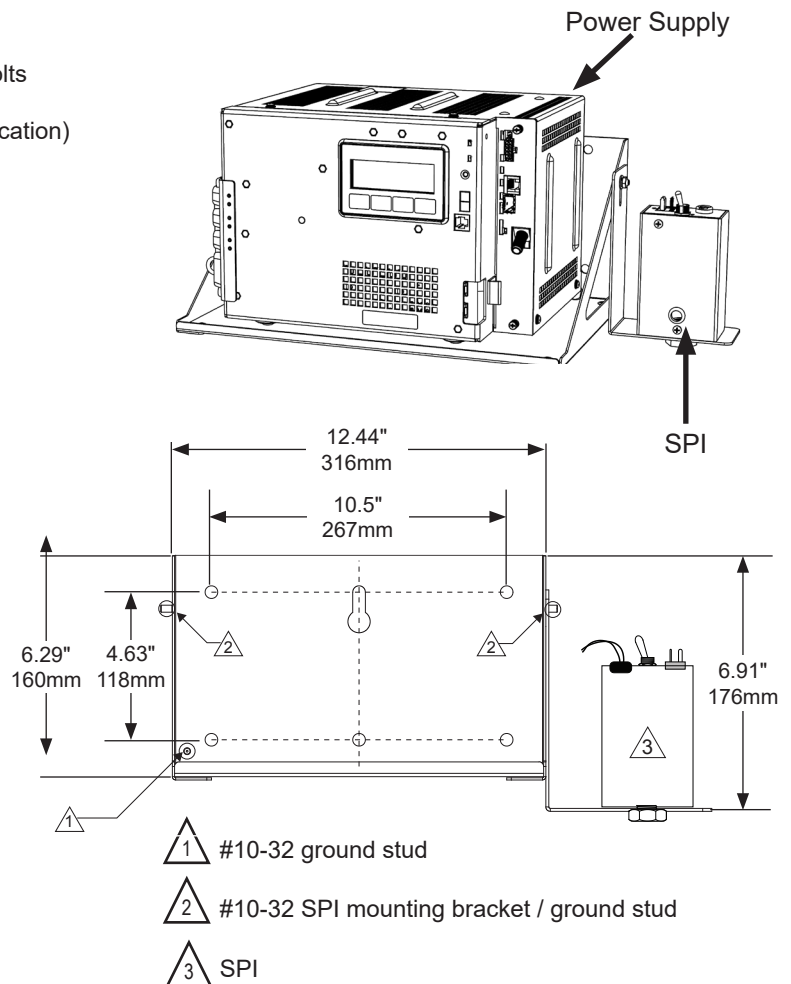
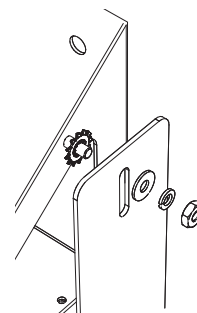

Fig. 7-1, Wall-Mount Shelf Mounting Hole Layout and SPI Bracket
Fig. 7-2, SPI Hardware Stack Up
1. Refer to Fig. 7-1 for the shelf dimensions. Select a location that allows sufficient clearance on the top, bottom and sides of the shelf for cabling required for the installation.
4. Install the SPI to the SPI bracket and torque to 130 in-lbs (14.5 Nm). Follow the proper stack-up as shown in Fig. 7-2 and mount the SPI bracket onto either of the #10-32 studs  in Fig. 7-1, and tighten the supplied #10-32 nut, lock washer, and flat washer.
5. Verify the power supply is connected to the shelf grounding connection. The power supply connects to the ground stud  in Fig. 7-1. Follow the proper stack-up as shown in Fig. 7-3 to attach the supplied lock washer, #10-32 nut and supplied ground wire.
6. Verify the shelf is grounded via the unused #10-32 ground stud  in Fig. 7-1, and a user-supplied ground wire. Follow the proper stack up as shown in Fig. 7-3 to attach the supplied lock washer, #10-32 nut and customer supplied ground wire. Refer to applicable codes to determine additional grounding requirements.